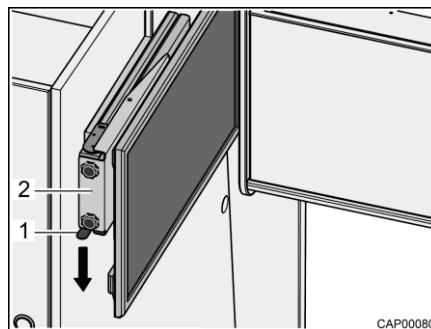

Fig. 81 Pull-out with flat screen
- Press catch spring (Fig. 81,1) downwards and pull pull-out (Fig. 81,2) with flat screen out horizontally towards the centre of the vehicle.
- Push the pull-out (Fig. 81,2) with flat screen in horizontally as far as it will go. The catch spring (Fig. 81,1) engages audibly.